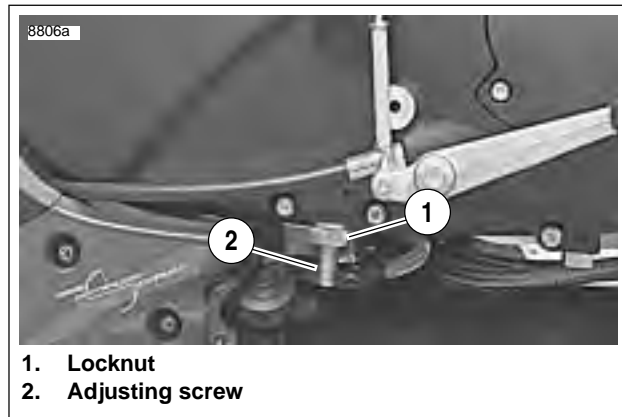

Figure 1-28. Chain Tension Adjusting Fastener
1. See Figure 1-28. Loosen locknut (1).
2. Turn adjusting fastener (2):
3. Tighten locknut (1) to 20-25 ft-lbs (27-34 Nm).